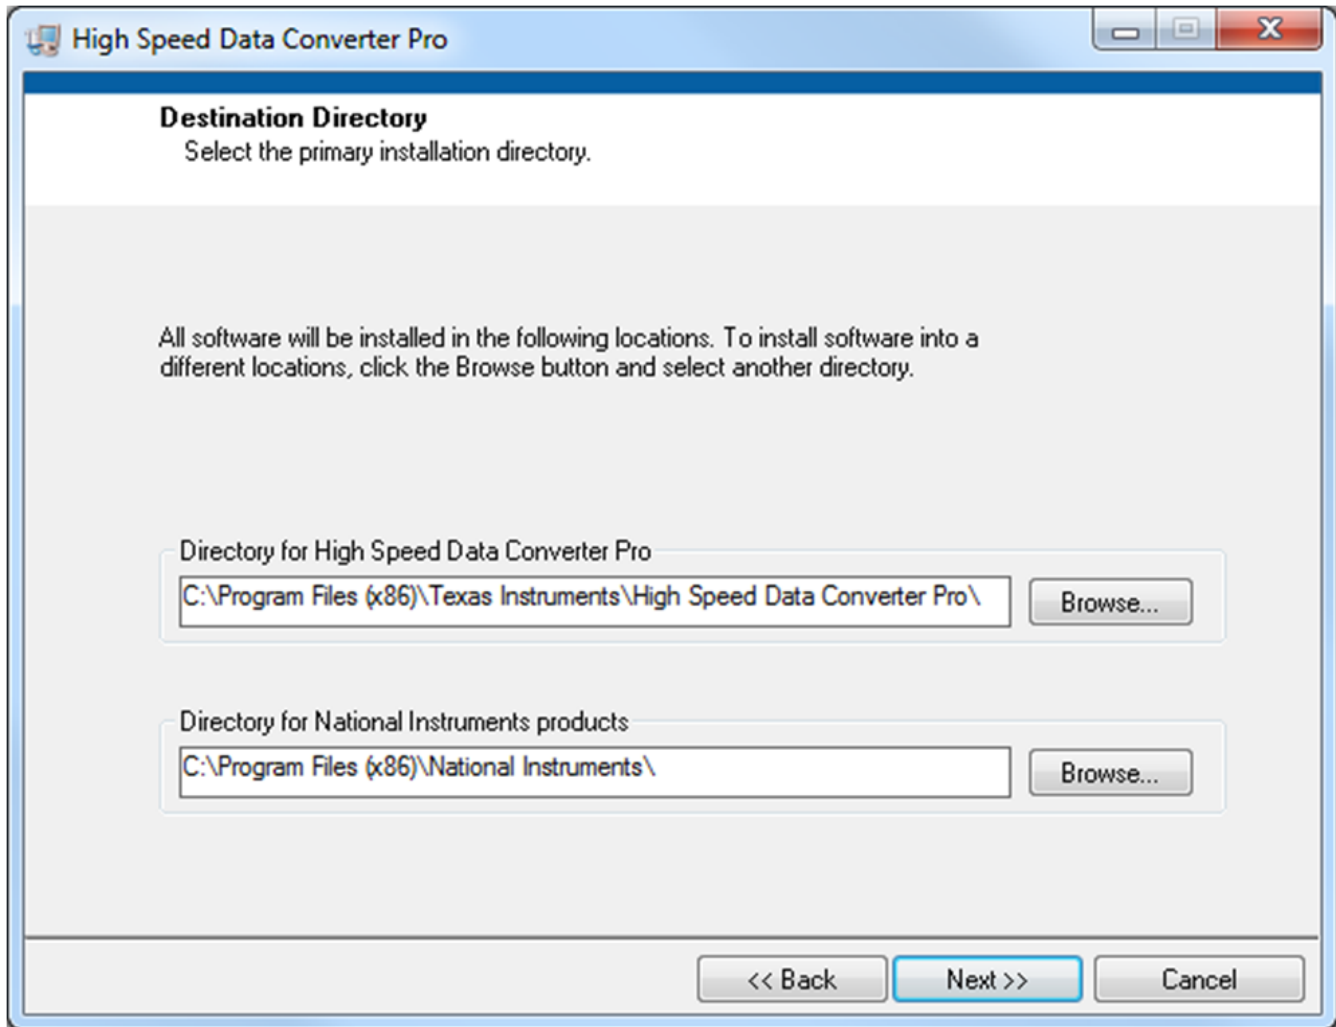

Figure 33. HSDCPro Install (Install Directory)
- Leave the destination directories as the default location, for the TSW1400GUI installation and press the NEXT button as shown in Figure 33.